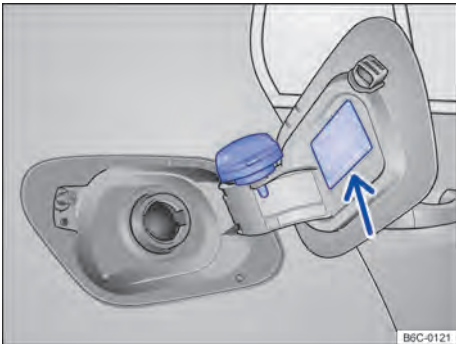

Fig. 162 Open tank flap with tank cap attached to the holder.
- Remove the tank cap rotating it counter clockwise and stow it into the holder on the tank flap → **Fig. 162**.